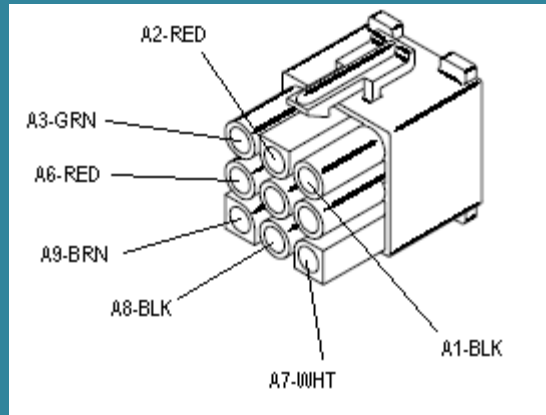

Figure 3 – HTS Signature Series HP Connector
- b) The unique Molex connector as identified in **Figure 3**. This connector plugs into the fan cabinet of the Signature Series.